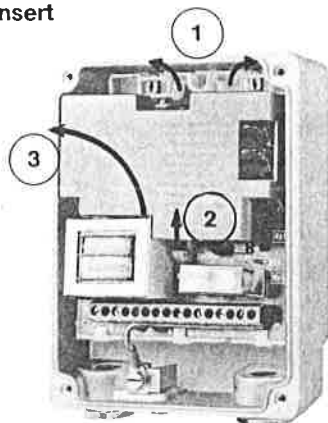

Fig. 3
- Turn both switch lock screws by 90° and remove electronic insert from the housing (see fig.3).